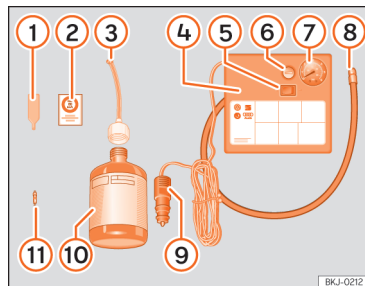

Fig. 201 Standard display: contents of the tyre mobility system.
The tyre mobility system is located underneath the floor covering in the luggage compartment. Includes the following components >>> **Fig. 201:**
- Unscrew the tyre valve cap and insert. Use the device >>> **Fig. 201** ① to remove the valve cap. Place it on a clean surface.
- Shake the tyre sealant bottle vigorously >>> **Fig. 201** ⑩.
- Screw the tyre inflation hose >>> **Fig. 201** ③ into the tyre sealant bottle. The bottle's seal will break automatically.
- Remove the filler cap >>> **Fig. 201** ③ and screw the open end of the tube into the tyre valve.
- Replace the valve insert with the device >>> **Fig. 201** ① onto the tyre valve.
- Screw the tyre inflation tube of the compressor >>> **Fig. 201** ⑧ onto the tyre valve.
- Check that the air evacuation screw is closed >>> **Fig. 201** ⑥.
- Attach the connector >>> **Fig. 201** ⑨ to the vehicle's 12 volt power outlet >>> **page 180**.
- Switch on the air compressor with the ON/OFF switch >>> **Fig. 201** ⑤.
- Attach the sticker >>> **Fig. 201** ② to the instrument cluster display, within the driver's field of vision.
Screw in the inflator tube >>> Fig. 201 **8** again and check the pressure on the gauge **7**.